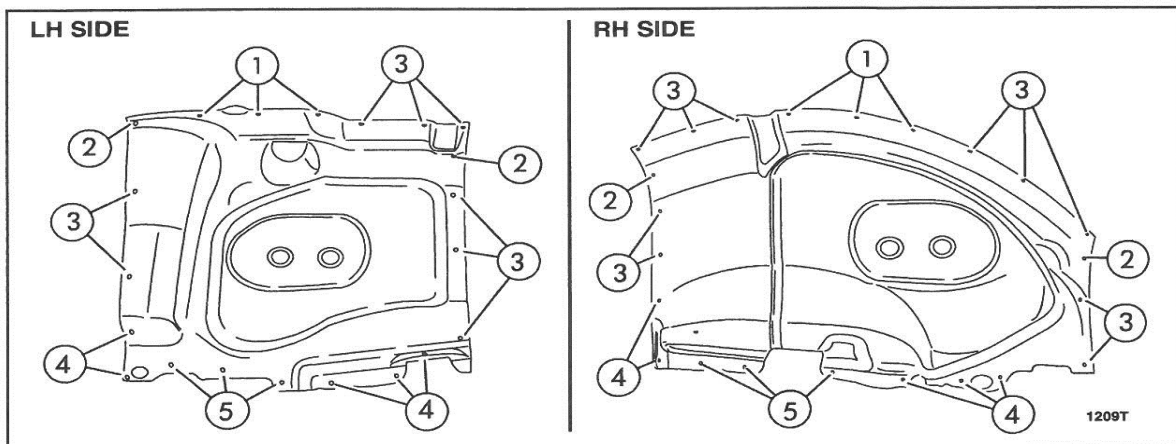

FIGURE 15
30. Using the self-tapping screws, secure the *new* LH overlay panel to the original panel in the order shown in Figure 15. Use care not to over-tighten and strip the screw attachments.
NOTE: To ensure a tight fit to the original panels, it is important to install the screws in the order shown in Figure 15.